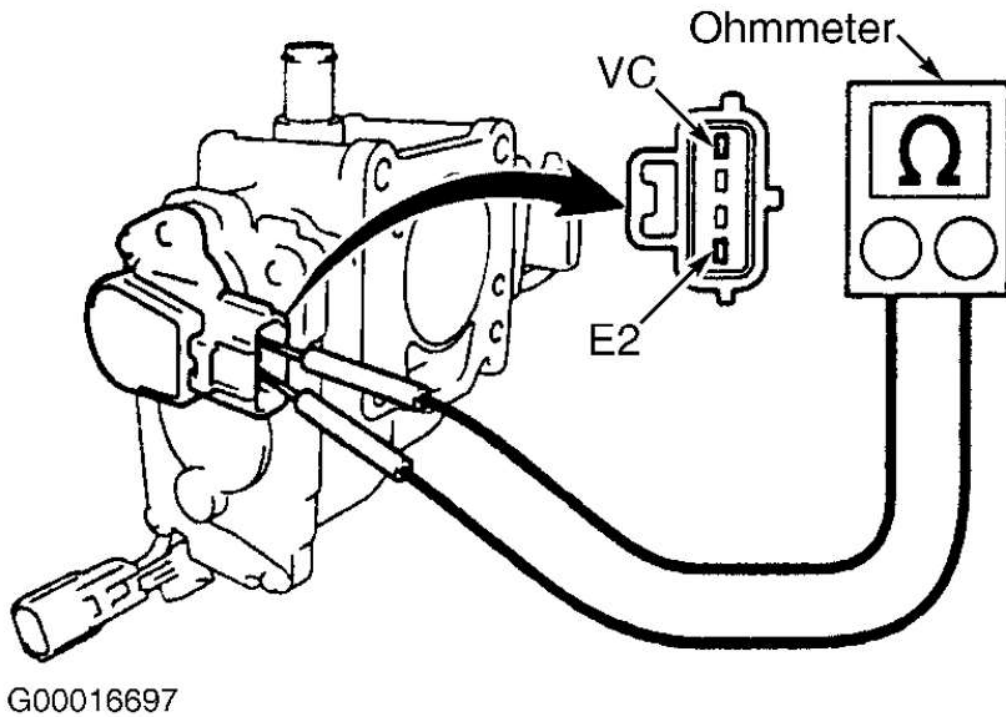

Fig. 57: Identifying Throttle Position Sensor Terminals (MR2 With Sequential Manual Transaxle)
1. There are 2 types of throttle bodies and Throttle Position (TP) sensors, depending on type of transaxle used. On models with standard type manual transaxle, the driver operates the clutch and shifts the transaxle. On models with sequential manual transaxle, transaxle is electronically controlled and clutch is operated and transaxle is shifted hydraulically by moving shift lever forward or backward. Sequential manual transaxle may be identified by shift lever pattern which consists of "R", "N", "S" and "+" in place of conventional type shift lever pattern and no clutch pedal is used. On this model, a different type TP sensor is used. On all models, manufacturer does not list procedure for TP sensor adjustment. Only information available is for checking resistance of TP sensor.
2. On models with sequential manual transaxle, it may be necessary to remove throttle body for access to electrical connector at TP sensor. If necessary to remove throttle body, see THROTTLE BODY under FUEL SYSTEMS in REMOVAL, OVERHAUL & INSTALLATION - 4-CYLINDER article. On all models, disconnect electrical connector from TP sensor. Note electrical terminals on TP sensor. See **Fig. 56** and **Fig. 57** .